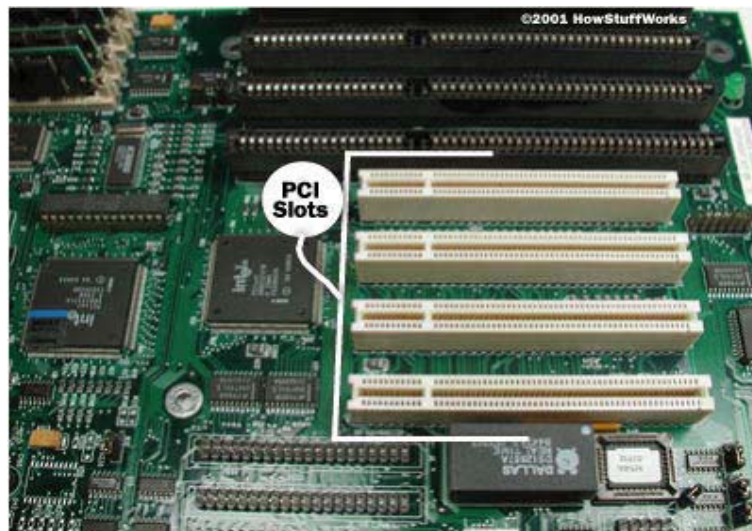

Figure 5: PCI Slot
- Insert the Iba Card into the PCI Slot (Figure 5) provided on the motherboard of the CPU.